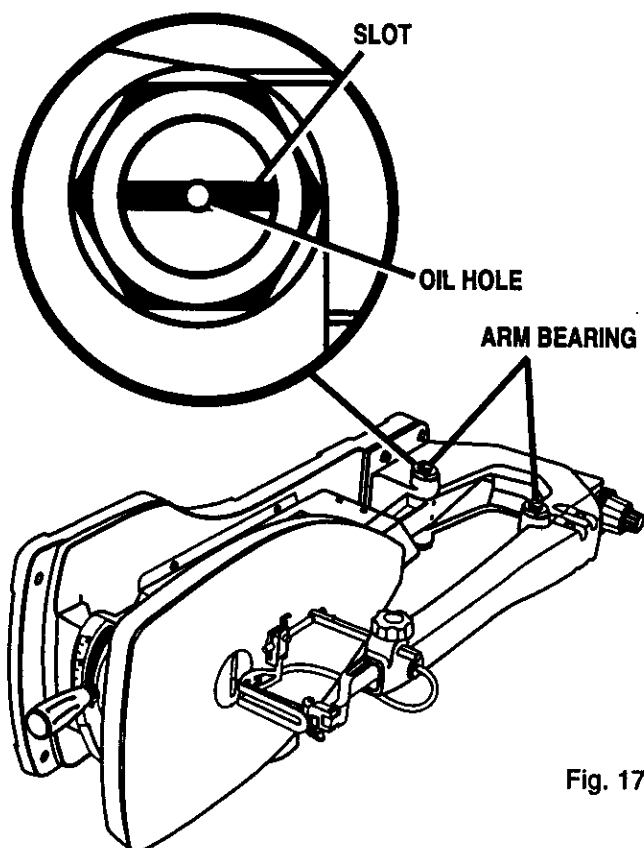

Fig. 17
See *Figure 17*.
- Carefully place the saw on its side as shown in *Figure 17*.